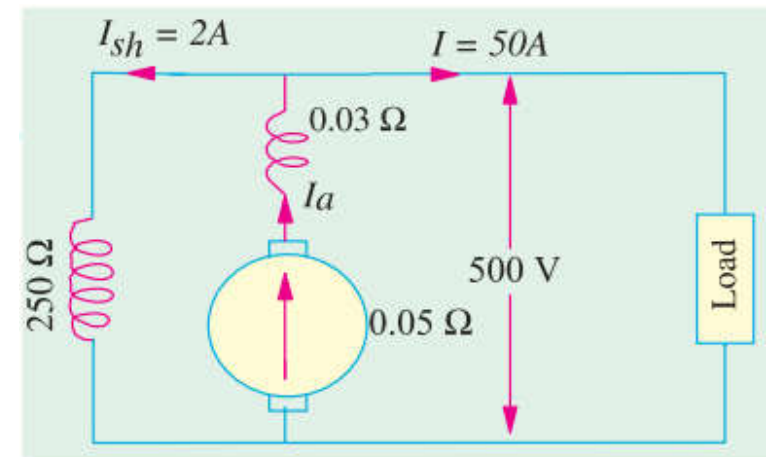

Fig. 26.47
**Solution.** Generator circuit is shown in Fig. 26.47.